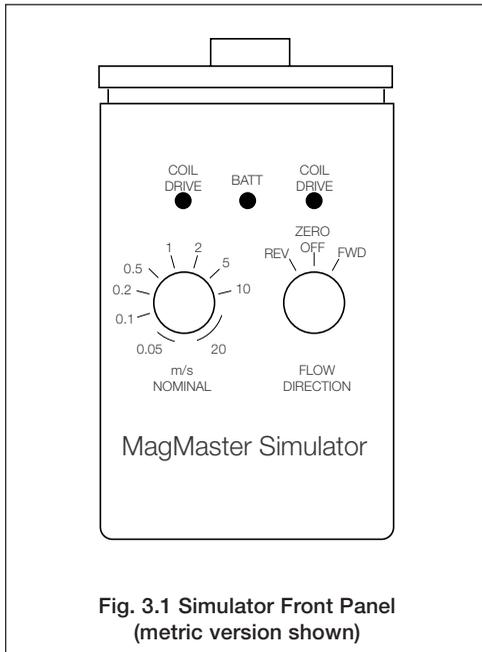

Fig. 3.1 Simulator Front Panel (metric version shown)
3.1 'Velocity' Switch – Fig. 3.1
3.2 Flow Direction Switch – Fig. 3.1
3.3 'COIL DRIVE' LEDs – Fig. 3.1
3.4 'BATT' LED – Fig. 3.1